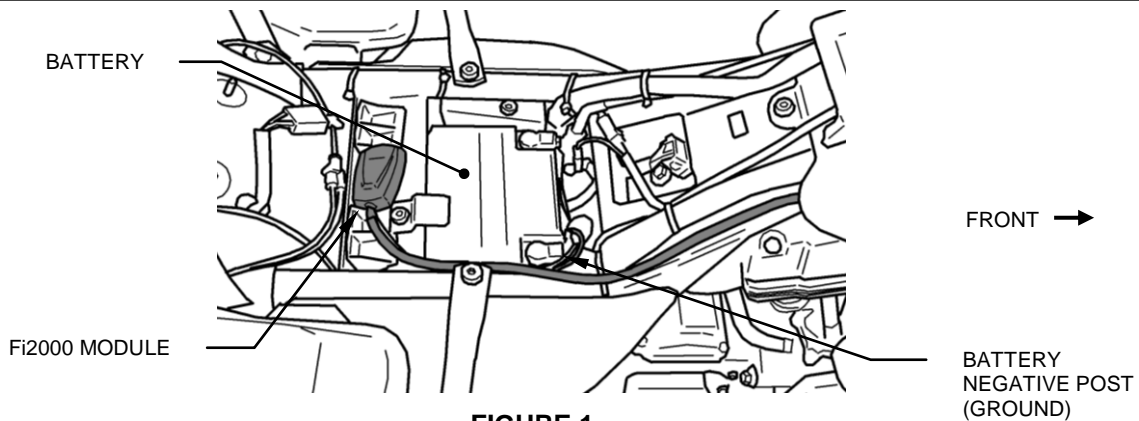
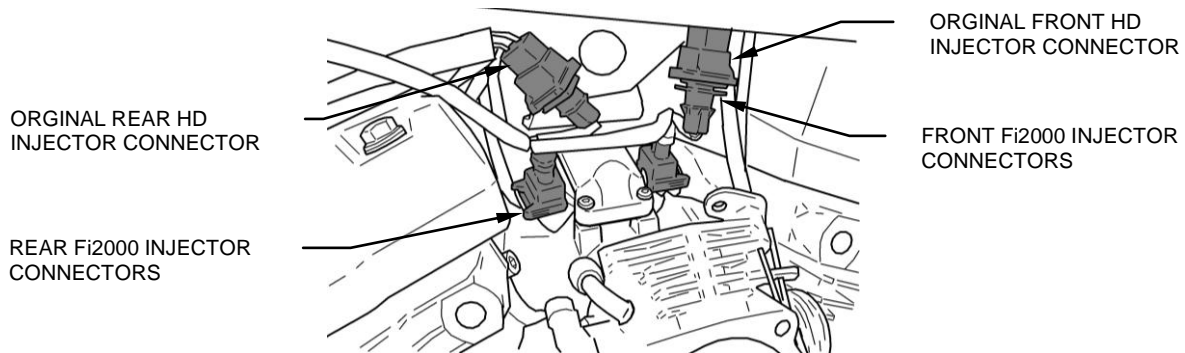

FIGURE 1
FIGURE 2
5. Lay the Fi2000 module in place, but do not attach it to the motorcycle, and run the wiring harness up to the manifold area behind the other wiring of the throttle body (See figure 1). Attach the Fi2000 module's forward injector plug, with the grey and red wire to the front injector. Take the original HD connector and insert the corresponding Fi2000 connector with the brown and red wires into it, see Figure 2.
6. Attach the Fi2000 module's rear injector plug with the blue and red wires to the rear injector. Take the original HD connector and insert the corresponding Fi2000 connector with the green and red wires into it, see Figure 2. Use one of the supplied zip-ties to secure the Fi2000 wire harness to the upper motor mount before it is routed back towards the seat area.
7. Route the BLACK wire from the module to the negative post of the battery as shown in figure 1.
8. Before re-installing the gas tank, seat and air cleaner assembly, verify your connections. Remove the door from the Fi2000 box to expose the LED's. Verify the wire connections by (1) turning the ignition on, prior to starting, and see if all three LED's are on steady. If you have no light, your ground connection (BLACK wire) has not made proper contact or your front injector connection is not complete. (2) After achieving a steady light from all three LED's, start the motorcycle, wait 15 seconds and let it idle, the green light should now be the only LED on. If all three LED's are still on after start up, verify you have attached the injector connectors correctly. Reattach the door when finished. **Note:** Make sure the ignition is turned off before changing any connection.
10. Remove the backing from the Velcro and attach the Fi2000 next to the battery as shown in Figure 1.